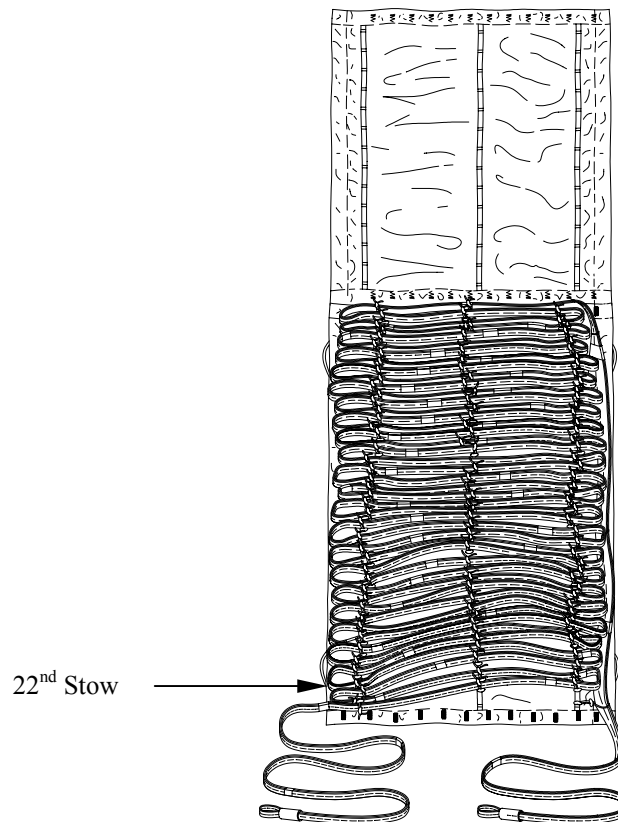

Figure 7. S-Fold and Secure Extraction Line.
- f. Working from upper left to right, stow and secure extraction line at each of the 44 left, 44 center and 44 right previously installed type I, 1/4-inch cotton webbing ties. Pass the running ends of each tie around both plies and secure with a surgeons knot locking knot (figure 7).